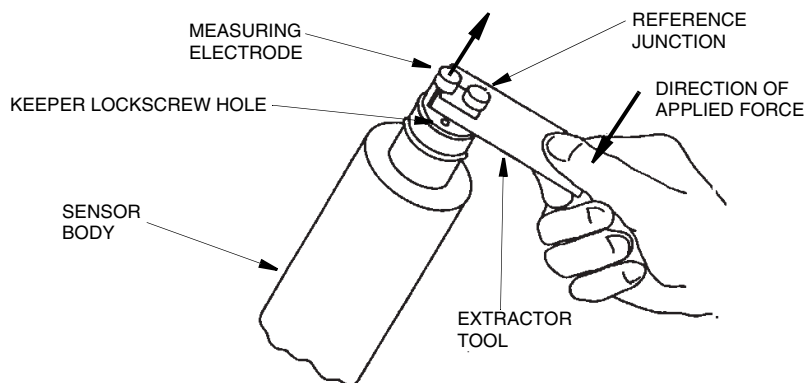

Figure 1. Removing Measuring Electrode
4. Slide the extractor tool (beveled edges up) into position as shown in Figure 1. Note that the edges fit into the electrode retaining slot.